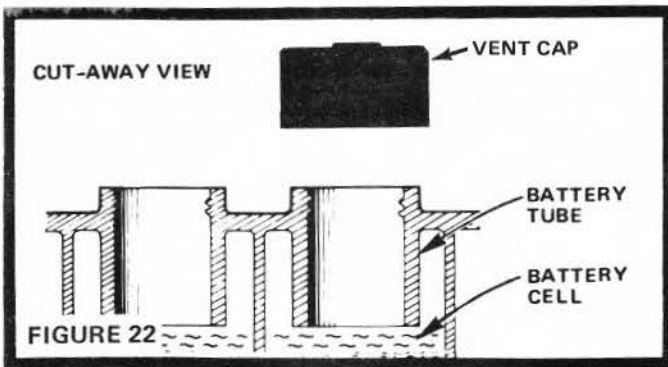

FIGURE 22
- Electrolyte solution level in each Battery Cell should be even with bottoms of tubes in cells (Fig. 22). Add distilled water if necessary. **NOTE: DO NOT OVERFILL.**